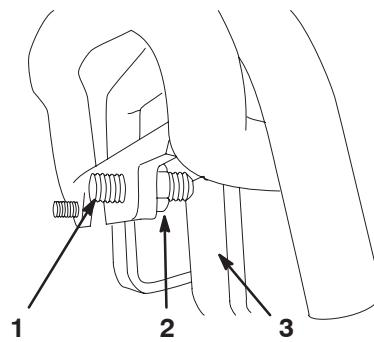

Figure 27
3. If the traction unit veers to the **left**, loosen the **right** jam nut and adjust the tracking set screw on the front of the traction control (Fig. 27).
4. If the traction unit veers to the **right**, loosen the **left** jam nut and adjust the tracking set screw on the front of the traction control (Fig. 27).